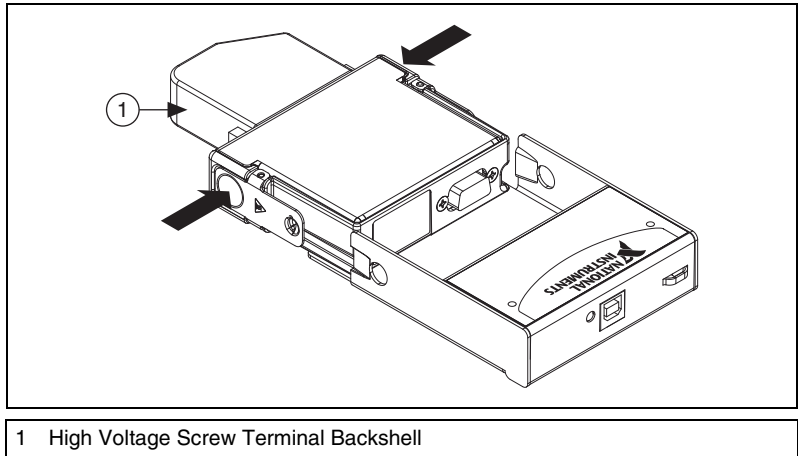

Figure 5. Module Installation
The NI 9263 module and NI USB-9162 carrier are packaged separately. Refer to Figure 5 while completing the following assembly steps:
3. Align the I/O module with the carrier, as shown in Figure 5.